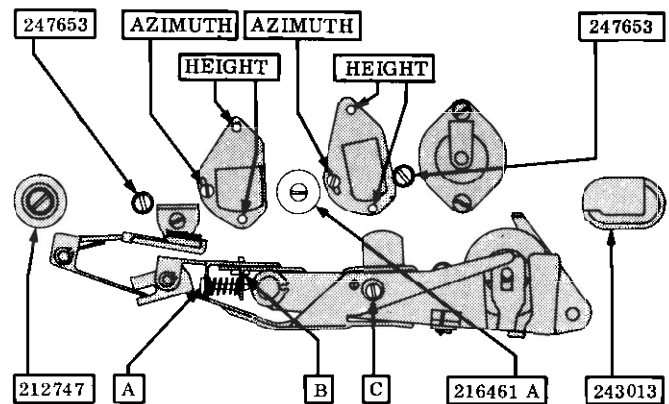

Fig. 5.1 Heads and tape path, adjustment screws
2. Insert tape in the tape path and set the operating lever to normal forward drive position. Adjust the height position of the tape guide posts (247653) and (212461A) until the tape passes freely between the flanges on the screws. See fig. 5.1.
Adjust the height of the record/playback head with the height adjustment screws. See fig. 5.1. The tape should run flush with the upper edge of the upper head-half. See chapters 5.3.1 and 5.4.2 regarding track measurement of record/playback head.
Set the speaker selector in position EXT. Play back a standard azimuth test tape and connect a VTVM to each one of the external speaker outputs. Adjust the position of the record/playback head with the azimuth adjustment screw (see fig. 5.1) until maximum indication on the voltmeters is obtained.
With the height adjustment screws shown in fig. 5.1, adjust the height of the head until approx. 0.25 mm (10 mil) of the ferrite core for the upper track of the erase head is visible above the edge of the tape. See paragraphs 5.3.2 and 5.4.1 regarding track measurement of the erase head.
Adjust the azimuth position by means of the azimuth screws as shown in fig. 5.1. The head base plate and upper mounting plate should be parallel. The azimuth position of the erase head is not critical.
Adjust the height position of the erase head with the adjustment screws (fig. 5.1). The upper edge of the tape should run flush with the upper edge of the active area of the erase head.
Adjust the height position of the record/playback head with the adjustment screws (fig. 5.1). Record a 1000 Hz signal in stereo well above normal level on a tape which has a full track recording of a continuous signal. Dip the tape in Magna See Solution and check that the tracks are symmetrically distributed across the width of the tape. Check that the recorded area lies within the erased track. Adjust the erase- and record/playback heads if necessary. See paragraph 5.2.3 regarding azimuth and lateral adjustments.
This adjustment will normally only be required when other adjustments have been made, or after replacement of one or more heads. Adjustments of oscillator frequency and bias current must first be performed (see paragraph 5.5.5). Set the function selectors in position REC. Connect the VTVM to wiring terminal 122 (record/playback head), range 10V or 3V. Loosen screw B approx. one half turn (fig. 5.1). Turn the adjustment screw A for maximum indication on the VTVM. Then adjust the height adjustment screw C also for max. reading. Turn the adjustment screw A to move the bias head in the opposite direction of the tape motion until the VTVM indication has decreased 5-20%. Tighten screw B. Finally demagnetize heads and tape path.